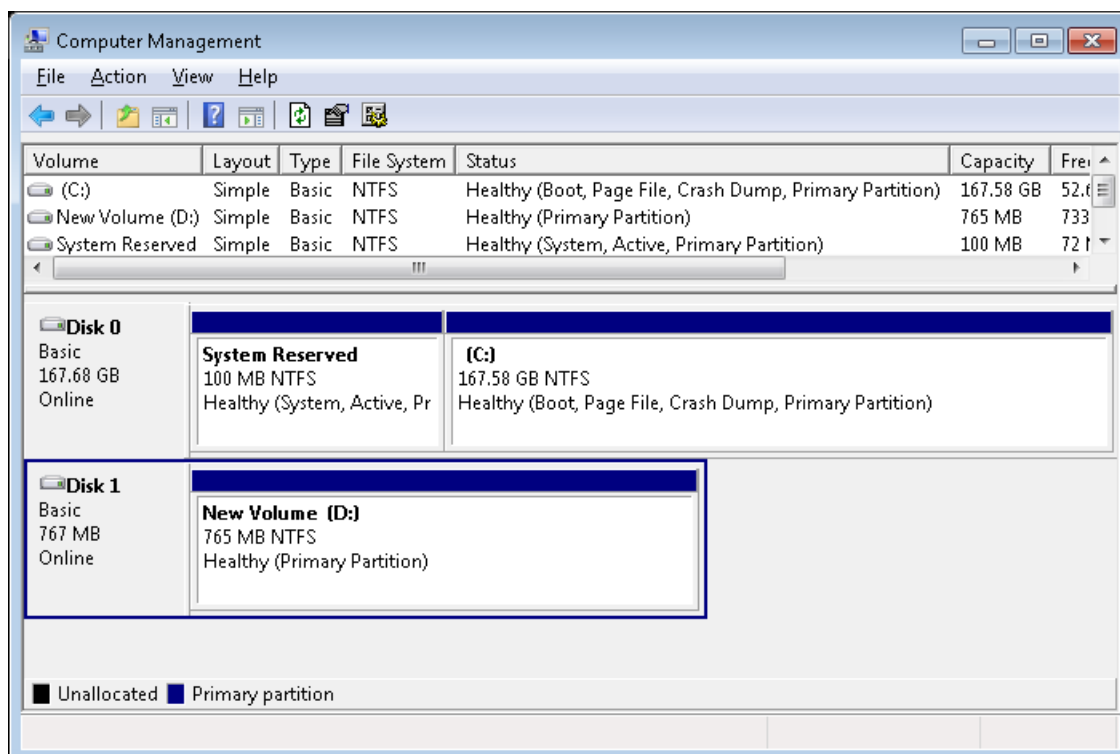

Figure 9 Format Complete
- Wait until format completed, new drive is ready to use, as shown in Figure 9.